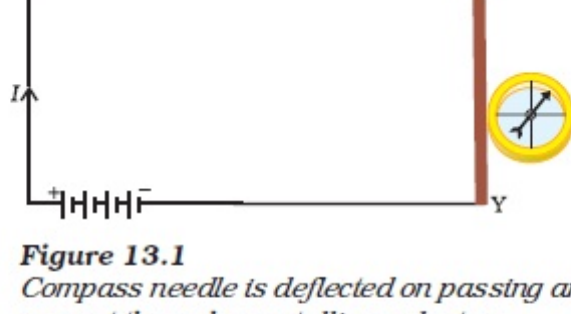

Figure 13.1 Compass needle is deflected on passing an electric current through a metallic conductor
- Take a straight thick copper wire and place it between the points X and Y in an electric circuit, as shown in Fig. 13.1.